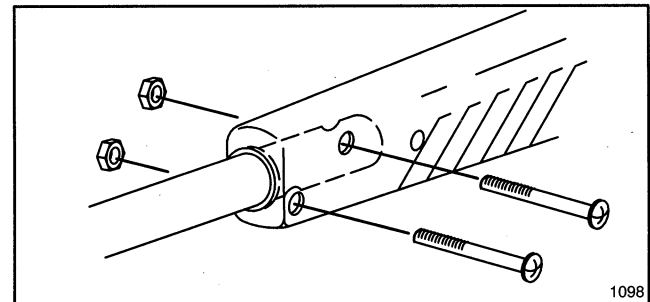

Figure 6
2. Insert tube end into motor housing, aligning grooves in tube with screw holes in motor housing (Fig. 6).